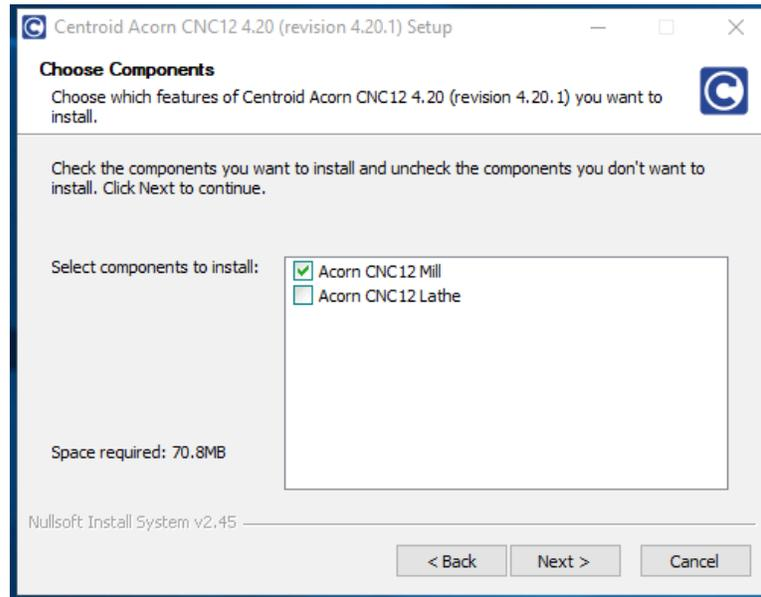

Figure 1: Selecting Acorn CNC12 Mill
6. Select **CNC12 Mill** for a Mill installation as shown in Figure 1.